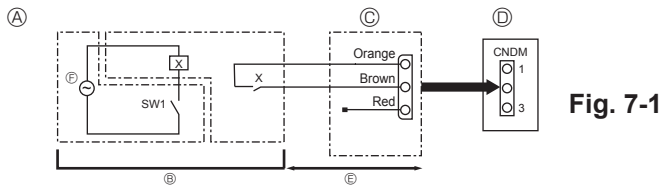

Fig. 7-1
7.1. Low noise mode (on-site modification) (Fig. 7-1)